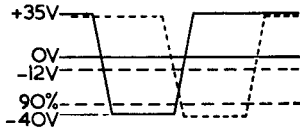
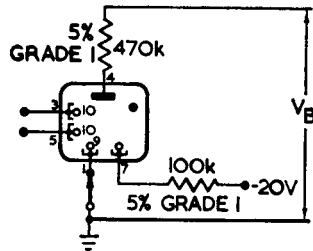
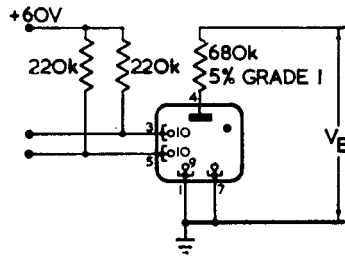

Fig. 1
Fig. 2
Fig. 4
2. The tube shall scale without error the first applications of test signals (illustrated in Fig. 1). Test signals are to be applied for at least 1/10th second. The test circuit of Fig. 2 is applicable.
5. The tubes selected for this test are to be run in the circuit shown in Fig. 4. One application of the pulses shown in Fig. 1 is to be made every  $85 \pm 5$  hours. The tube is to receive 20 such pulses and then be removed. A tube which fails to step on the application of the test pulses shall be rejected. The normal guide bias is to be +60 V which will be reduced to +35 V immediately prior to the application of pulses.